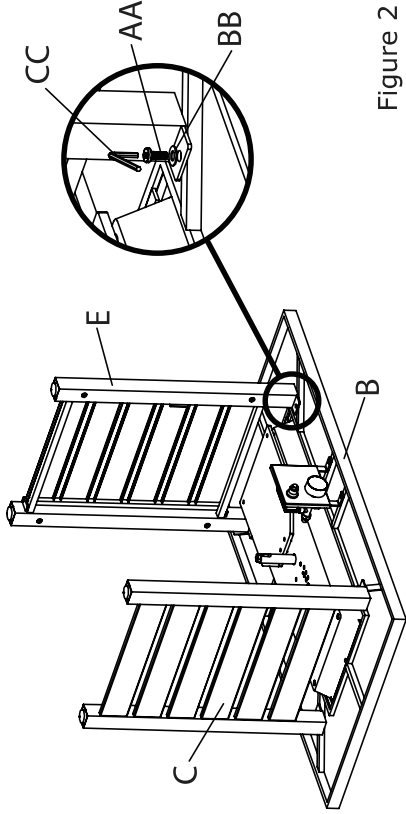

Figure 2
- Attach right panel (C) and door panel (E) to table top assembly (B) with bolts (AA) and washer (BB) by using hex screw driver (CC), (see Figure 2).